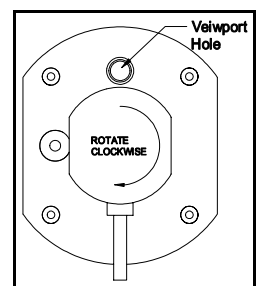

Figure 8
8. Press the ballast against the mounting base and rotate the ballast assembly clockwise until it stops. (See Figure 8)